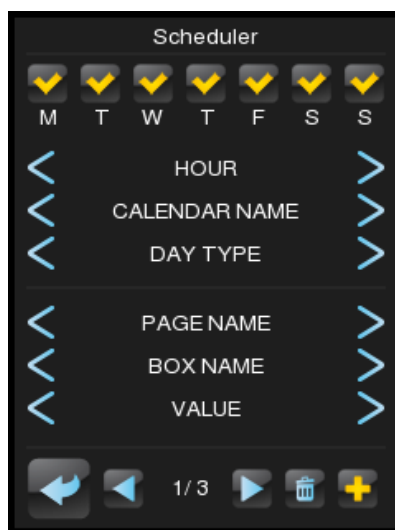

Figure 132 Scheduler
- **Right Button:** opens up the macro configuration panel³ (Figure 132).